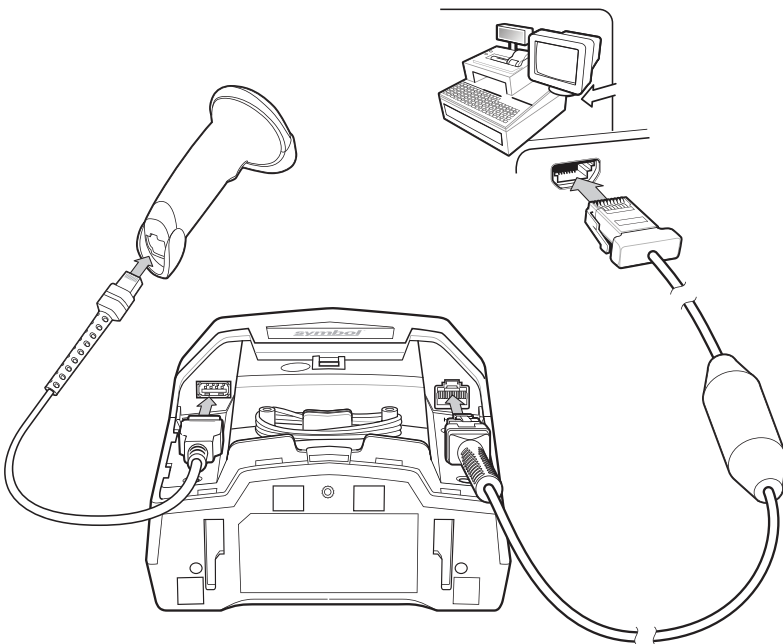

Figure 9-2 IBM Connection with Optional Auxiliary Scanner
- b. Connect either a CBA-M65-S07ZAR or CBA-M66-S15ZAR 12 volt cable to the host as shown in Figure 9-2.